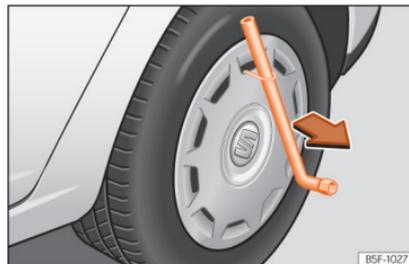

Fig. 35 Remove the wheel cover. »
- Insert the box spanner through the hook, rest it on the tyre and remove the wheel trim »» Fig. 35.